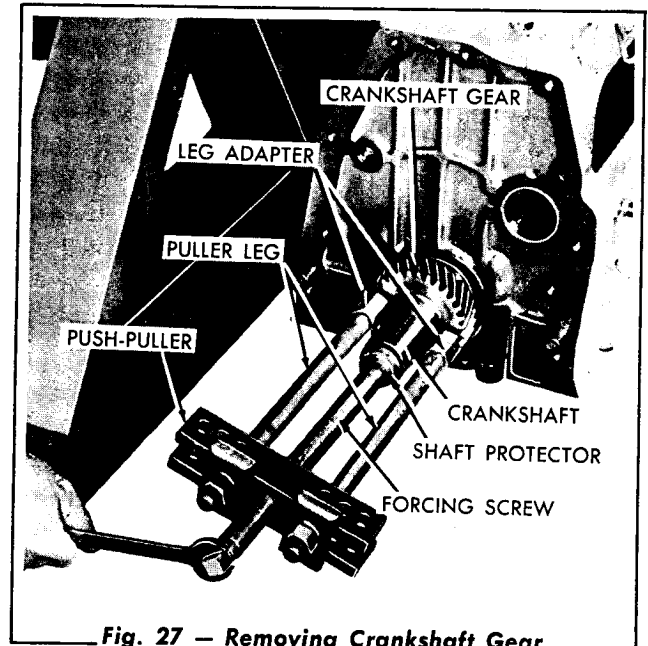

Fig. 27 — Removing Crankshaft Gear
- i. Using a puller similar to the one shown in Fig. 27, pull the crankshaft gear from the crankshaft.